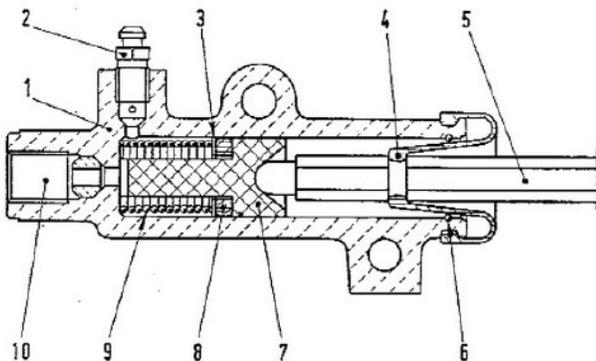

Fig. 86. - Clutch operating cylinder.
When pressure reaches the fluid in operating cylinder (1, fig. 86) it pushes plunger (7) and displaces rod (5) thus actuating the clutch release forked lever.
In operating cylinder (1, fig. 86) seal ring (8), also when at rest, is axially compressed by cup (3) under the action of spring (9). The seal ring is under the radial
Pedal free travel is adjusted by turning in or out the nut and locknut on rod (5, fig. 86) operating the clutch release forks.